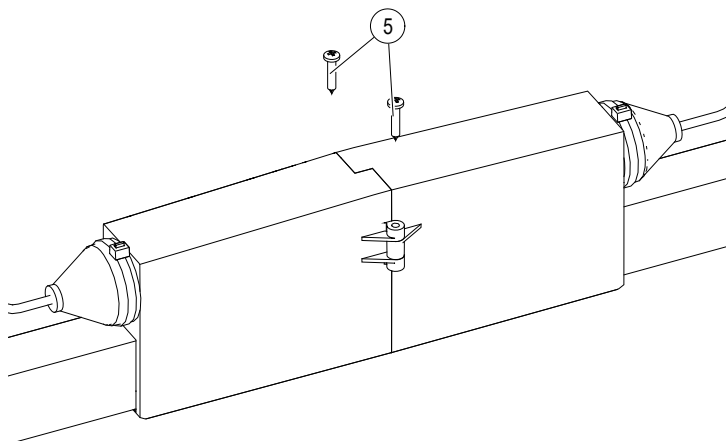

Fig. 48: Tighten the screws (5) of the cap halves
→ Tighten the screws (5) of the cap halves (see Fig. 48).